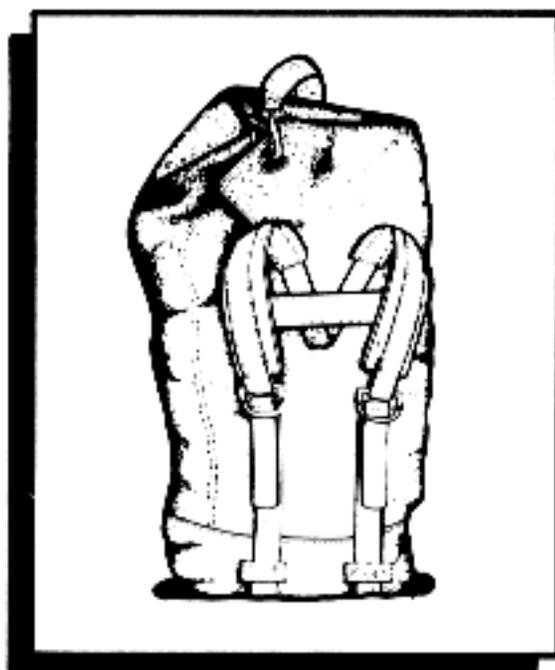

Figure 4-51. Duffel bag.
**Duffel Bag.** Use the duffel bag (figure 4-51) with handle and shoulder straps in the field to carry individual clothing and equipment not carried in the field pack. Close the duffel bag by folding the top of the bag in envelope fashion, placing the grommets over the U-shaped keeper, and attaching the snap on the carrying strap to the keeper. Carry the bag by the handle as a suitcase or by the shoulder straps slung over your shoulders pack-style.